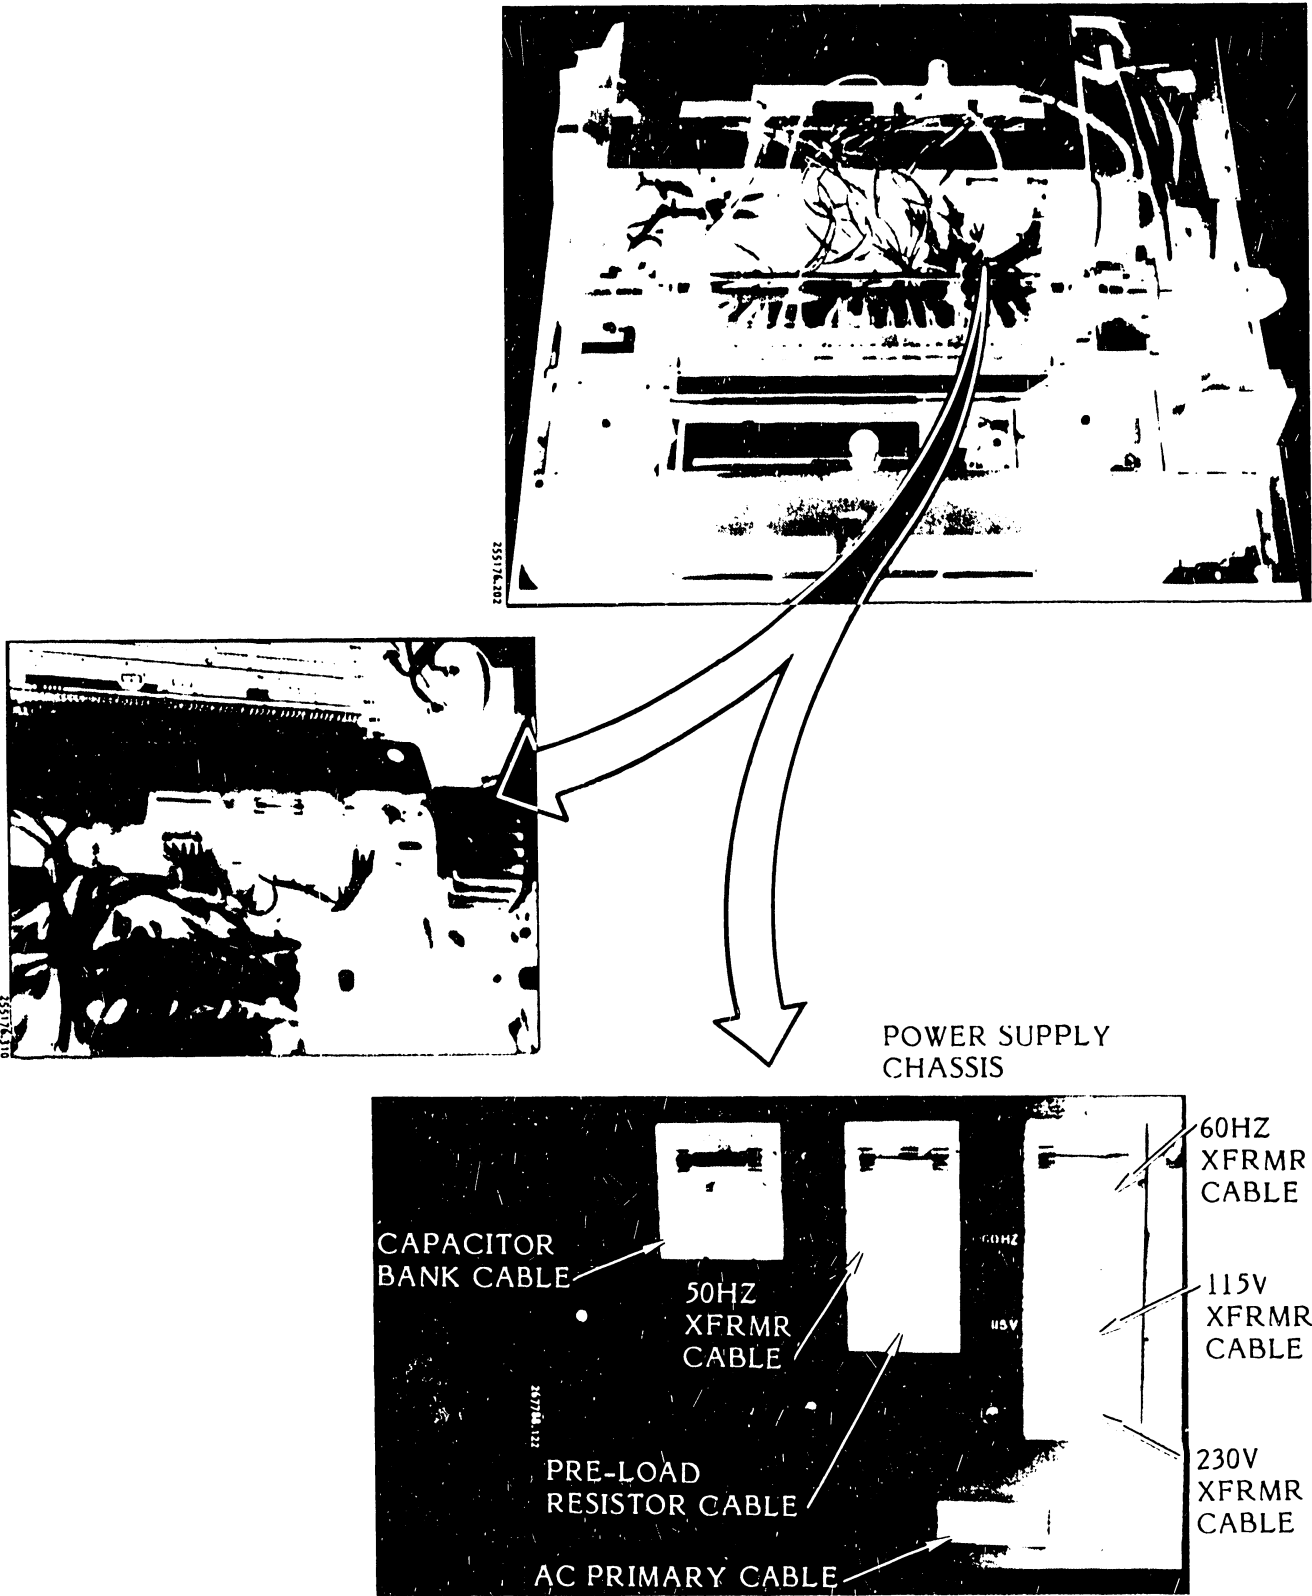

Figure 3-25. Rectifier CCA Diode CR3 Test
3.5.9 Rectifier CCA Diode CR3 Test (Figure 3-25)
- d. Unplug the transformer cable from Rectifier CCA connector J5A or J5B (see figure 3-25).